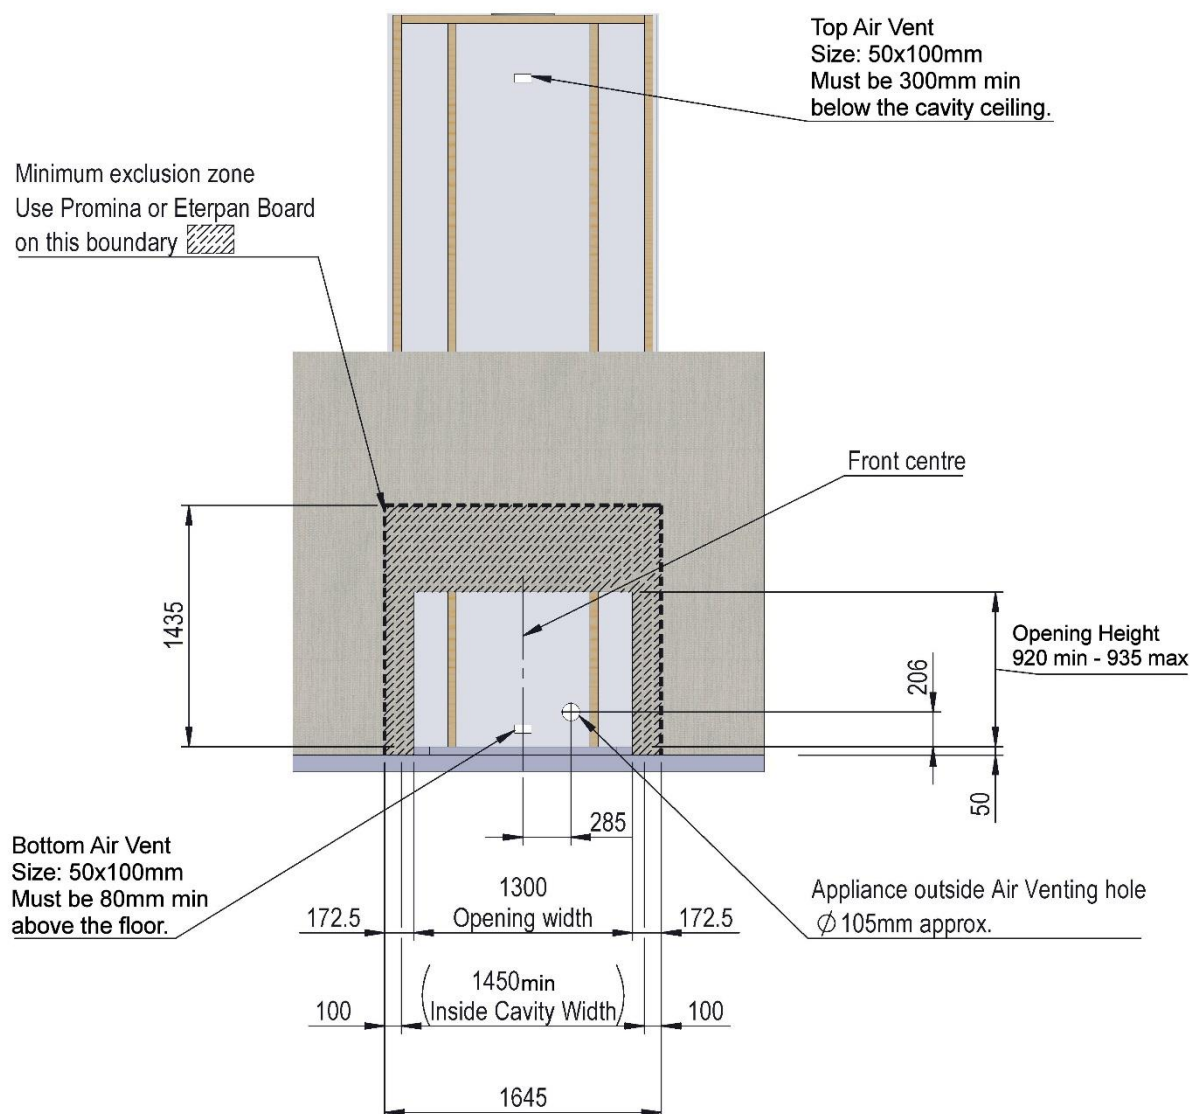

Fig. 5
- E1. Non-combustible front cladding **must be used** to a minimum of 600mm above the Zero Clearance Box, and a minimum of 100mm either side of the Zero Clearance Box down to the floor on both sides of the enclosure. (Fig. 5)